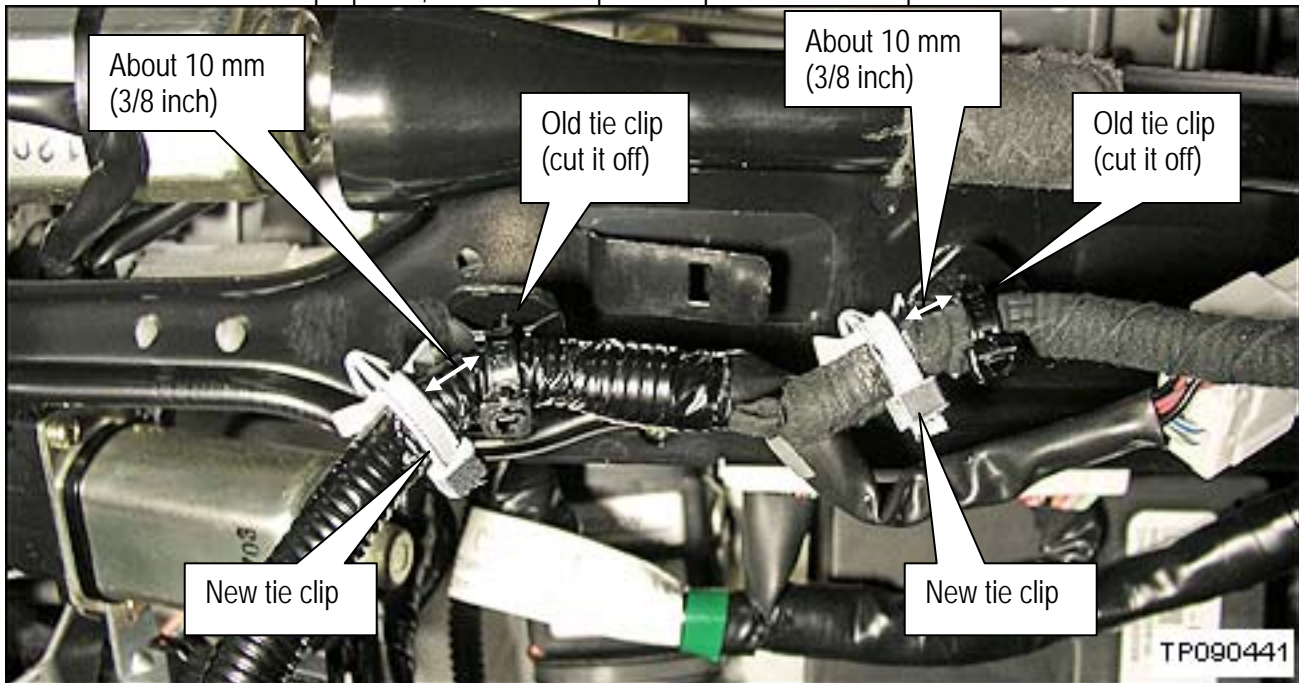

Figure 17
17. Under the seat, towards the front; install 2 new tie-clips at the positions shown in Figure 17.